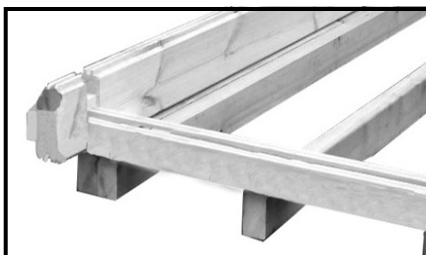

Fig B5
5. Assemble the first row of logs on top of the bearers by placing the half height (A1) logs in position and then the first of the logs (B) from each wall that run parallel to the bearers on top of them. (See drawing page 1). DO NOT FIX YET.
8. Position the outer bearers so the outer log sits 5mm in from the outer face (fig B5 & DRAWING PAGE 1 FIG 2&3) of the side and front logs.